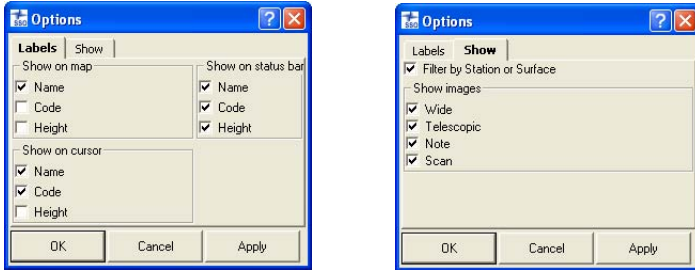

Figure 4-38. Image tab -> Labels and Show Options
1. Right-click on an empty portion of the *Image* tab and click *Options* on the pop-up menu. The Options dialog box displays (Figure 4-38).
2. On the *Labels* tab, enable the desired settings (Figure 4-38). Click **Apply** to apply the changes, then click **OK** to save the settings.
3. On the *Show* tab, enable the desired settings (Figure 4-38). Click **Apply** to apply the changes, then click **OK** to save the settings.